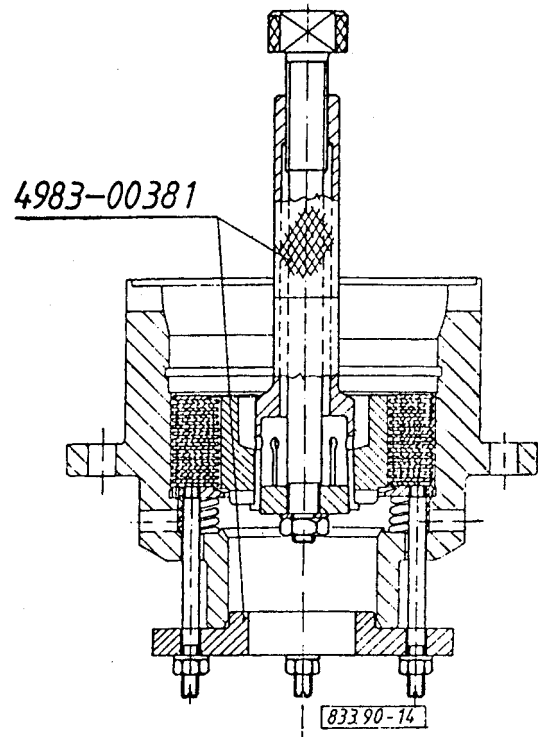

Fig. 3.:
After positioning the disks install the toothed hub (54) by means of the tool shown in Fig. 3.